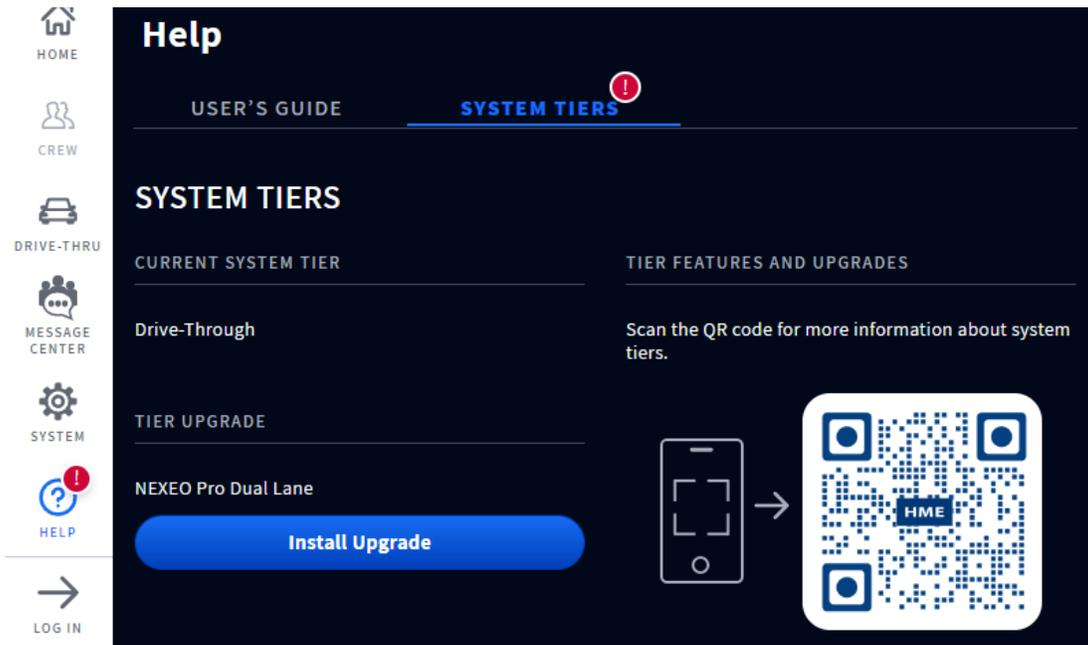

Fig. 6.3
**What is this screen for?** This page tells you what subscription tier you have. Use the QR code to find out more about subscription tiers. If you decide to purchase a subscription upgrade, a red exclamation icon appears next to the SYSTEM TIERS tab. The blue “Install Upgrade” button will also appear. See Fig. 6.3. Tap/click on the button to install. The upgrade may take up to 10 minutes to install, so it is recommended that the installation is performed after hours or during slow business times.